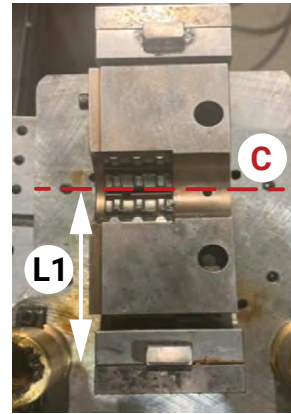

Fig.6
The first consideration is the minimum distance (L1) between the centerline of the crimping jaws (C) and the edge of the crimping machine (see Fig.6). This limitation directly impacts fitting design.